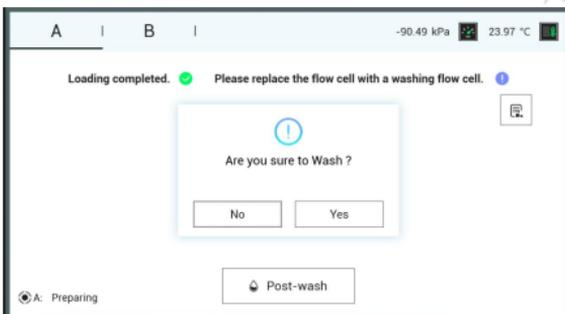

Figure 5-9: MGIDL-T7 Post-wash Confirmation Interface
- Click “Post-wash” and select “Yes” to start MGIDL-T7 wash (see Figure 5-9), which will take around 20 min.